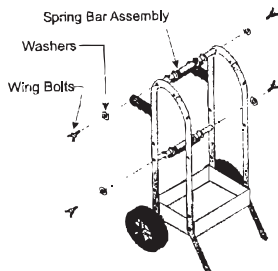

Figure 4. Spring Bar Installation
8. Repeat steps 6 and 7, placing the second spring bar assembly between the large holes in the rear frame above the large bottom tray. See **Figure 4**.